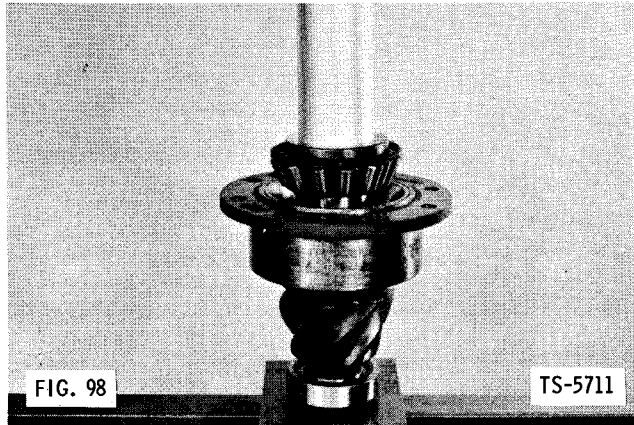
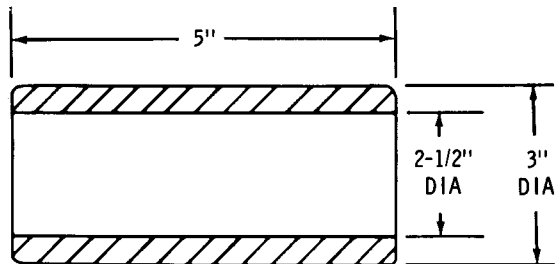

FIG. 98
FIG. 99 1/32" RADIUS ALL CORNERS TS-8413
- Position pinion bearing cage assembly on pinion shaft. Position outer pinion bearing cone on pinion shaft and press into place using steel tubing for driver (Fig. 98). Driver dimensions are given in Fig. 99.